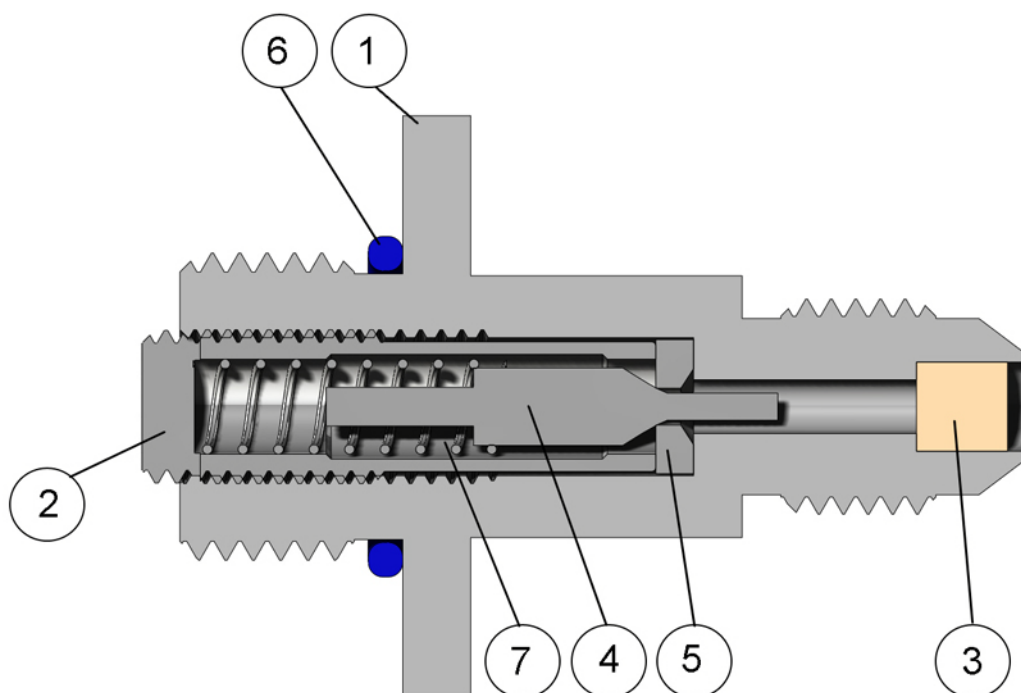

Fig 4.13 Corrective Maintenance Charging Point Check Valve
5. Unscrew the spring retainer (Fig 4.13, Item 2) and withdraw.
6. Take out the spring (Fig 4.13, Item 7) and valve pin (Fig 4.13, Item 4).
7. Remove the valve seat (Fig 4.13, Item 5) using a small stud extractor.
8. Fit a new valve seat (Fig 4.13, Item 5) countersink end first into the body (Fig 4.13, Item 1). Use a 1.5 mm pin (such as a welding rod) to ensure that the valve seat does not turn during installation.